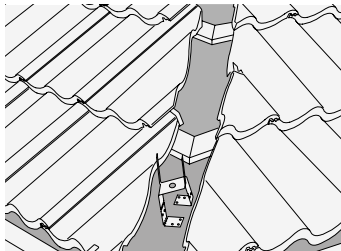

Fig. 3 - Lay tile to hip with raking cut
- Tile roof leaving a gap of 80mm between raking cut tiles laid adjacent to hip rafter (Fig. 3). Ensure all raking cut tiles and slates are fully supported on the battens and if not, provide suitable packers to prevent tiles from rocking.